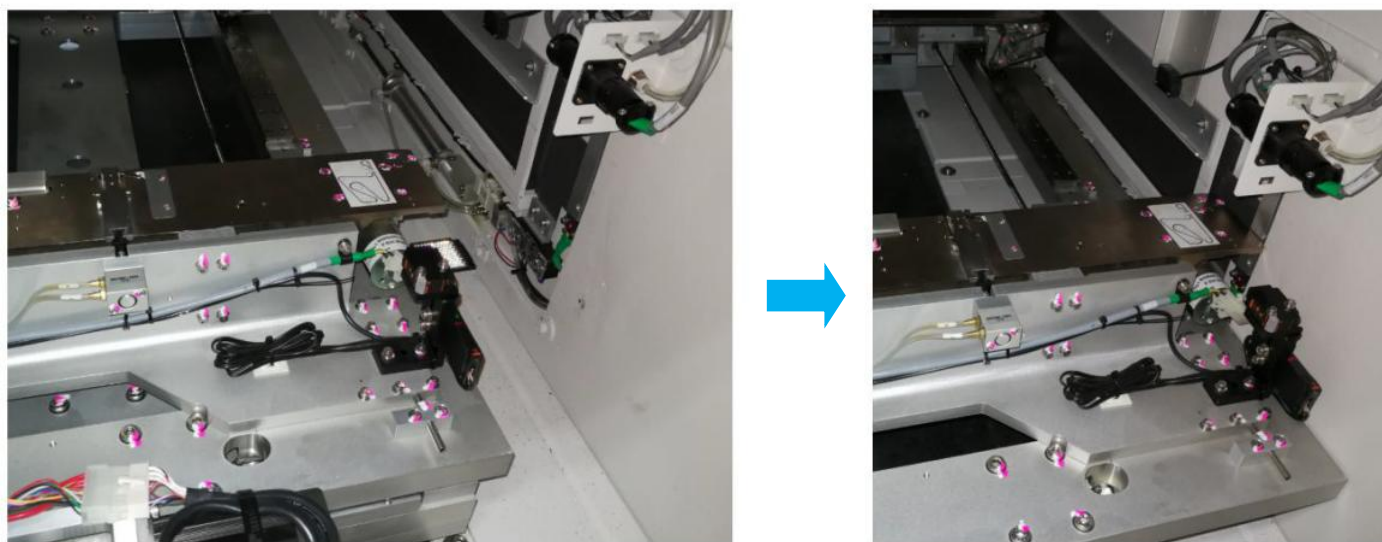

Figure 8
12. Manually move the X Axis Stage towards particular barrier. May refer to below Figure 8.